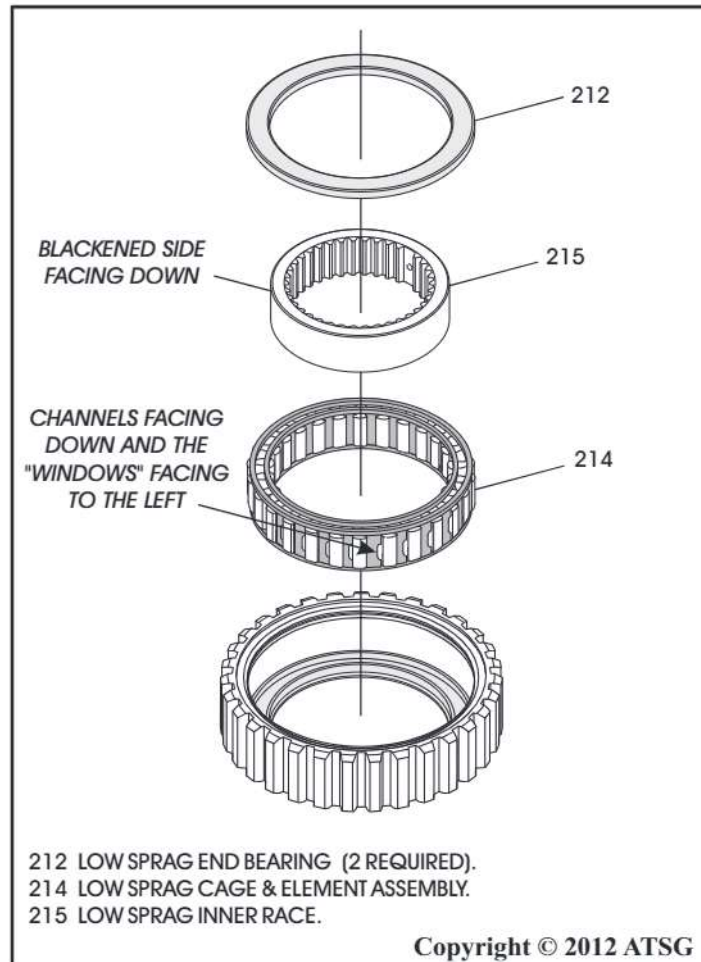

Figure 141
5. Install the sprag cage and element assembly into outer race, as shown in Figure 141.
Note: The "channels" in plastic sprag cage (See Figure 138) must be facing down and the "windows" facing left, as shown in Figure 141.
6. Lubricate and install the sprag inner race into the cage and elements, as shown in Figure 141, using a counter-clockwise motion.
7. Install second sprag end bearing in the direction shown in Figure 141 and push it down against the sprag cage and element assembly.